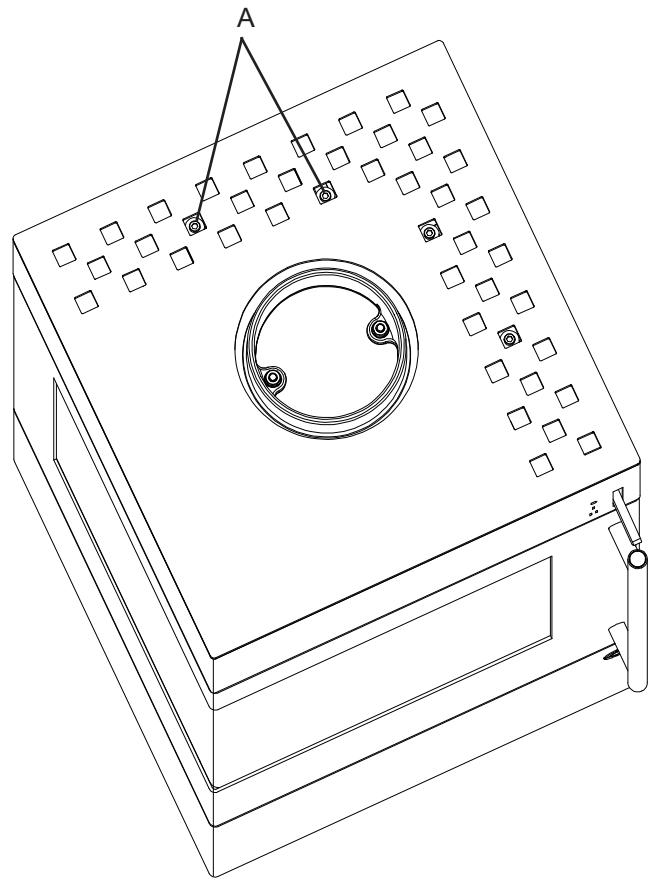

Fig.8
- Loosen the fastening screws (A) at the top of the unit (by no more than 2 turns, see Fig.8).